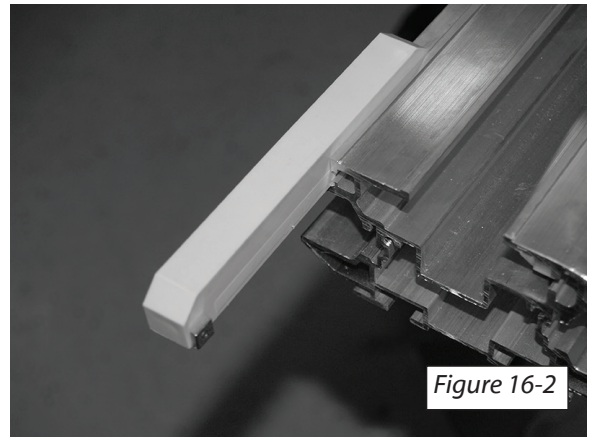

Figure 16-2
8. Slide the lower limit cam square nuts into the limit cam fastener channel and onto rail. [Figure 16-2]